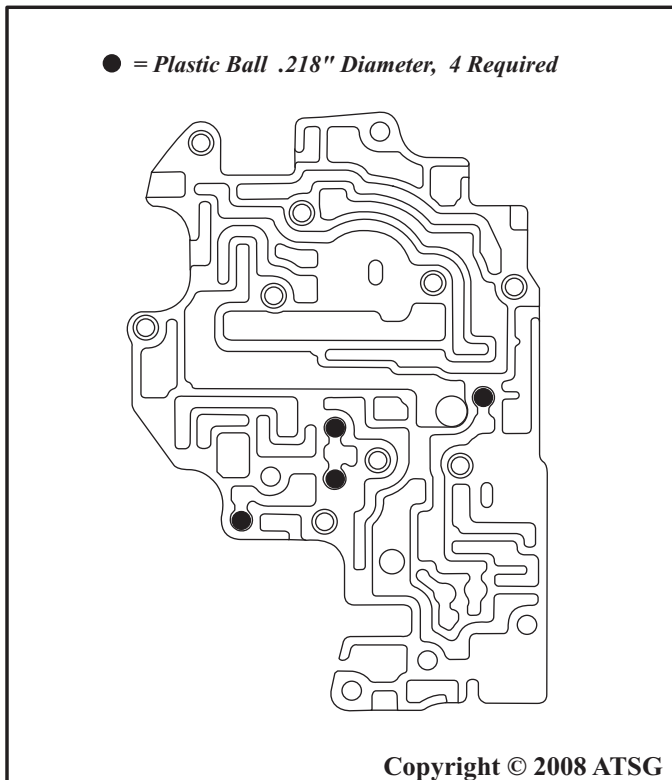

Figure 103
35. Install four plastic check balls in their proper locations, as shown in Figure 103.